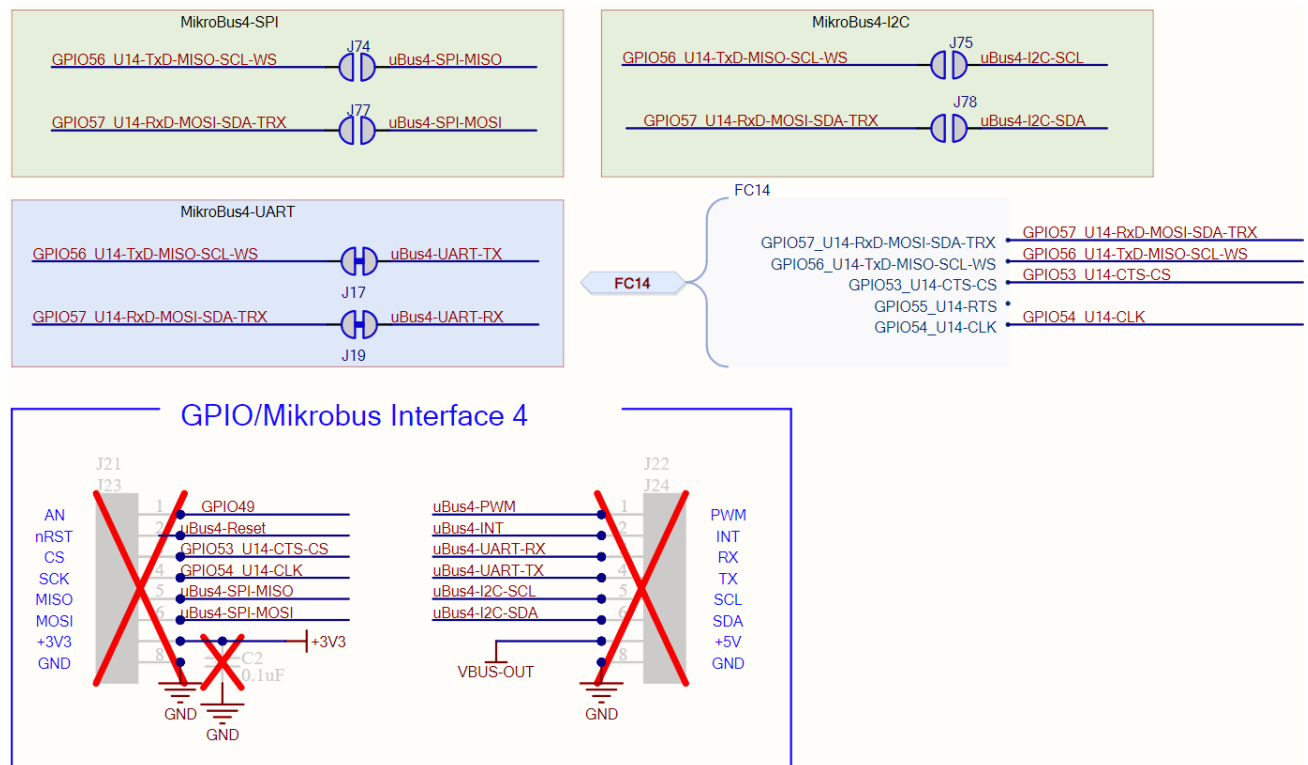

Figure 26: mikroBUS 4 slot signals and jumper configuration
- To enable I2C or SPI, adjust the state of jumpers **J74** and **J77** for SPI, or **J75** and **J78** for I2C, as shown in Figure 26. Also, toggle jumpers **J17** and **J19** to disable UART.
Figure 26 shows the connection of mikroBUS 4 to the Flexcomm 14.